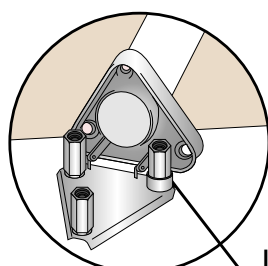

Fig 13,
13. Assemble the flagstaff onto the lugs, place the locking ring back over the long nut next to the hinging lug. (See Fig 13)